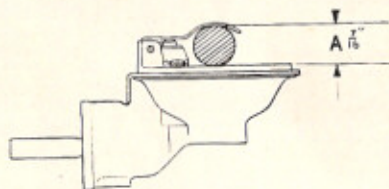

FIGURE 26
2. With the lid inverted and the forked lever resting on the needle valve thus closing it, it should be possible to pass a 7/16 in. dia. (11mm.) rod between the radius of the forked lever and the float chamber lid (Fig. 26). If the forked lever fails to conform within 1/32 in. (18mm.) of the check figure, bend it carefully at the start of the fork section, but take care to keep both prongs parallel with each other. There should be no need to alter the fuel level unless flooding is experienced, and this can be caused by grit jamming the needle valve, a punctured float, or excessive engine vibration; these points should be checked first.